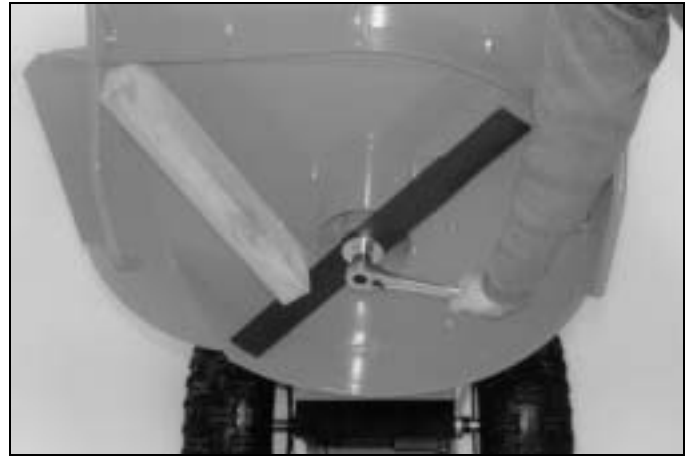

Figure 15
1. Block the blade with a piece of wood between the blade and the skid on the chute side of the deck (*Figure 15*).